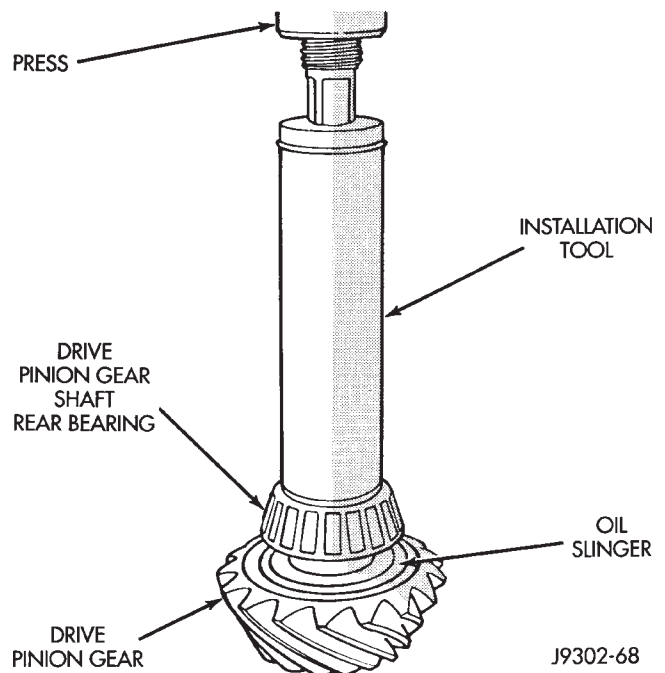

Fig. 46 Rear Pinion Bearing Installation
(6) Install the rear pinion bearing and oil slinger, if equipped, on the pinion gear with Installer W-262 and a shop press (Fig. 46).